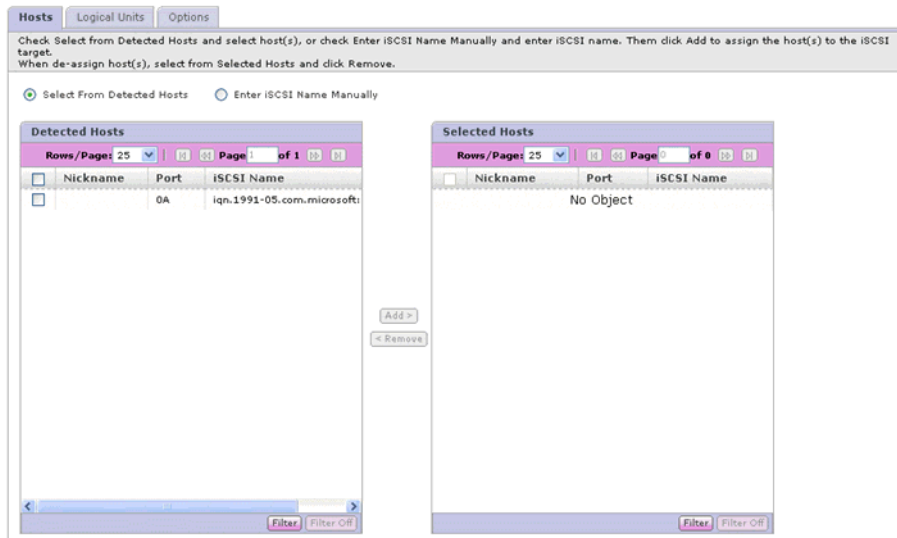

Figure 8-38: iSCSI Target Properties—Hosts Tab
- You can select the names from the list of Detected Hosts as shown in Figure 8-38, or